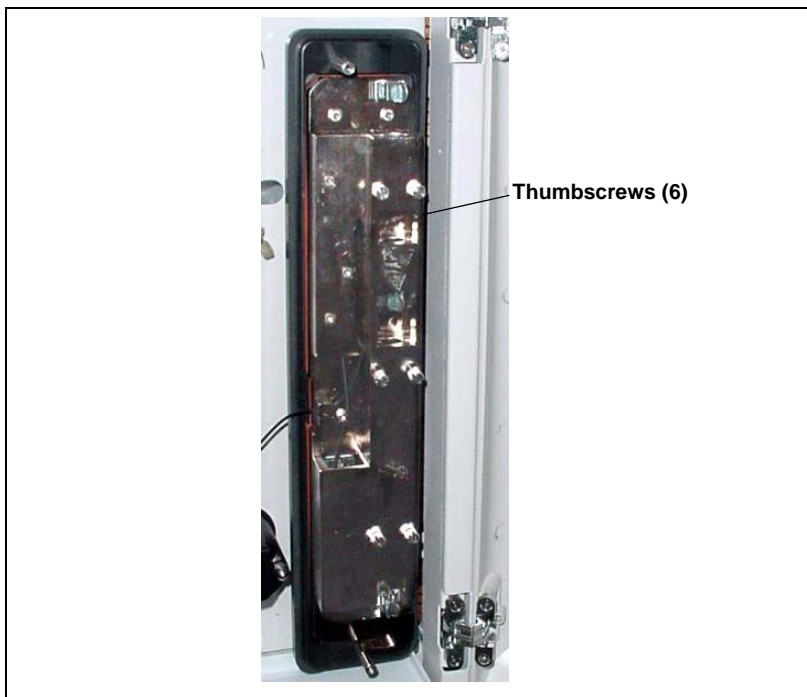

*Figure 5-20. Suppressor Guidelines and Mounting Tabs on Component Panel*
11. Align the top of the suppressor with the guide line printed on the component panel (see Figure 5-20) and align the slots on the rear of the suppressor with the tabs on the panel.